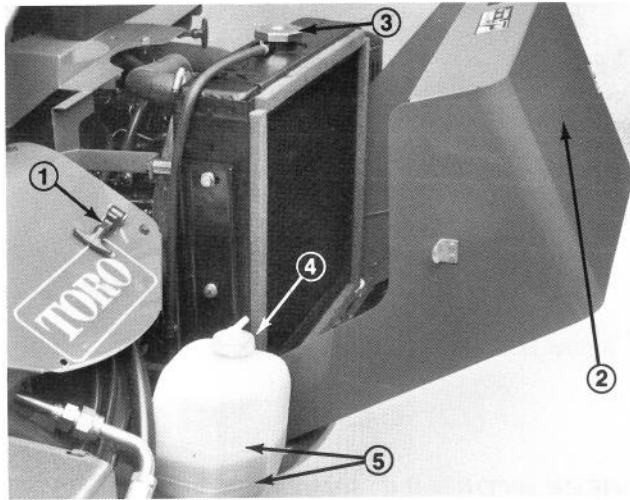

Figure 11
2. Remove dipstick from the left front of the engine, wipe end with a clean rag and insert it fully into the dipstick tube (Fig. 11). Remove dipstick and check oil level. If oil level is low, proceed to step 3. If oil level is up to the FULL mark on the dipstick, insert the dipstick and close and latch the hood. Continue with pre-operating procedures.
3. If oil level is low, unscrew the oil fill cap from the top of the engine (Fig. 11). Add a small quantity of a high-quality SAE 30 or 10W-30 detergent oil having the American Petroleum Institute — API — “service classification” CD and recheck the dipstick level. Continue until the oil level is up to the FULL mark on the dipstick. Do not overfill.